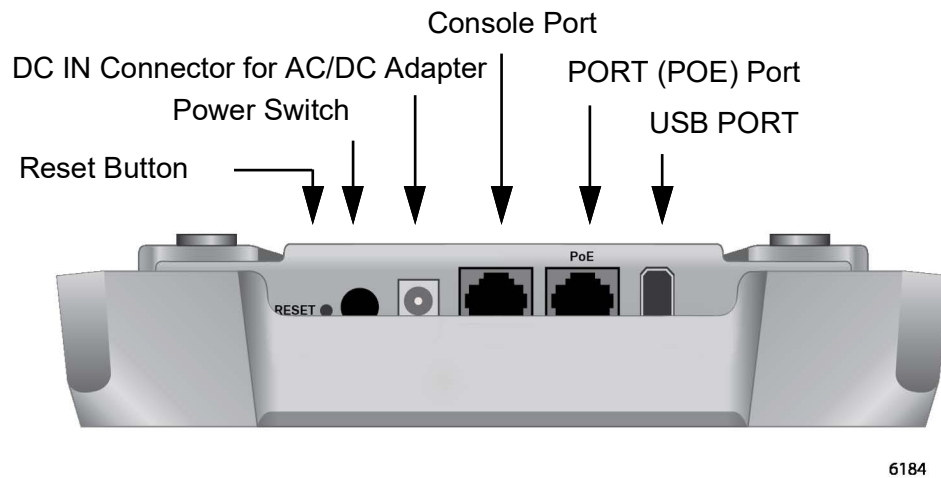

Figure 4. Back Edge View
The back edge view is illustrated in Figure 4.
- Power Switch** The Power Switch on the back panel in Figure 4 on page 17 turns On or OFF the access point when power is supplied to the access point only from the AC adapter, not from PORT (POE) port.
The access point has a Reset button on the back edge in Figure 4 on page 17 for returning the parameter settings of the device to their default values. You might reset the access point if you want to discard its current configuration or if you forgot the manager password and so cannot manage the device.